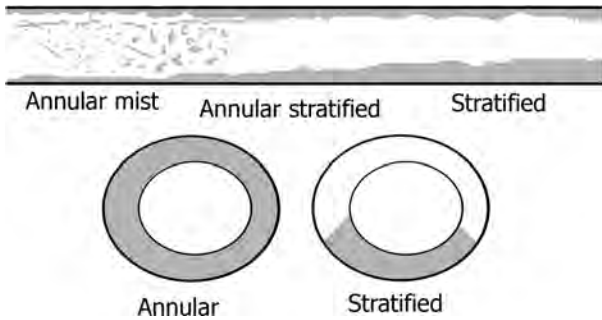

FIGURE 11.3 Annular and stratified flows inside horizontal condensers.
- Stratified and annular flows for vapors condensing inside horizontal tubes are shown in Figure 11.3.